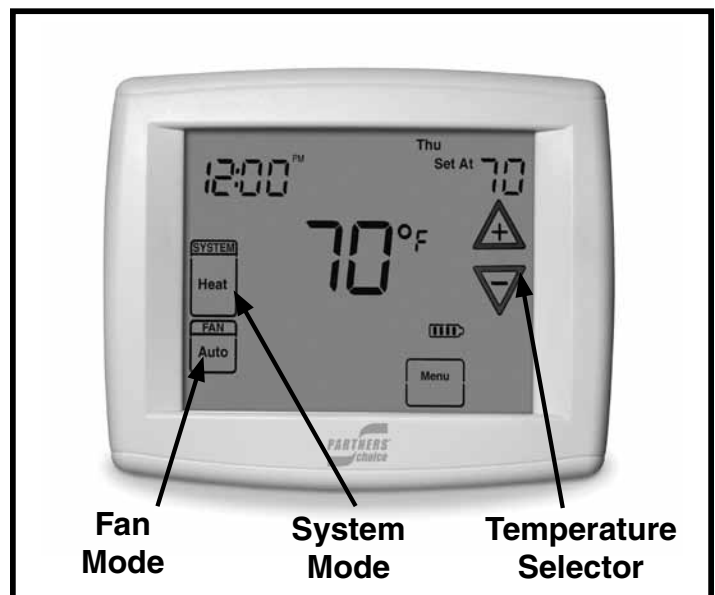

Figure 1. Digital Thermostat
1. Set the thermostat system mode to COOL and the thermostat fan mode to AUTO. See Figure 1.
1. Set the thermostat system mode to Heat and the thermostat fan mode to AUTO. See Figure 1.
Set the thermostat system mode to OFF (see Figure 1) and the thermostat fan mode to AUTO. **NOTE:** The system will not operate, regardless of the thermostat temperature selector's setting.
Set the thermostat fan mode to ON (see Figure 1). The indoor blower will start immediately and will run continually until the fan switch is reset to AUTO. **NOTE:** On some thermostat models the setting may be called CONT.